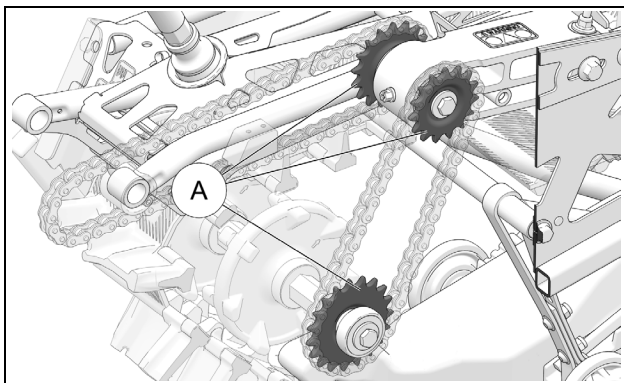

Figure 37
Inspect the chain drive sprockets (A) for wear. If the chain is set to the required tension (3-6 mm [1/8-1/4 in.] deflection) but misses or skips over some of the driving teeth, the sprockets must be replaced. Figure 37.